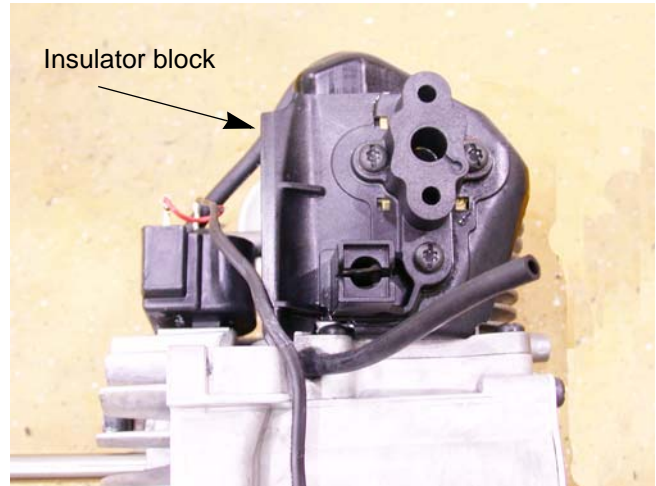

Figure 8.7
13. Remove the carburetor insulator block using a T-25 torx driver. See Figure 8.7.